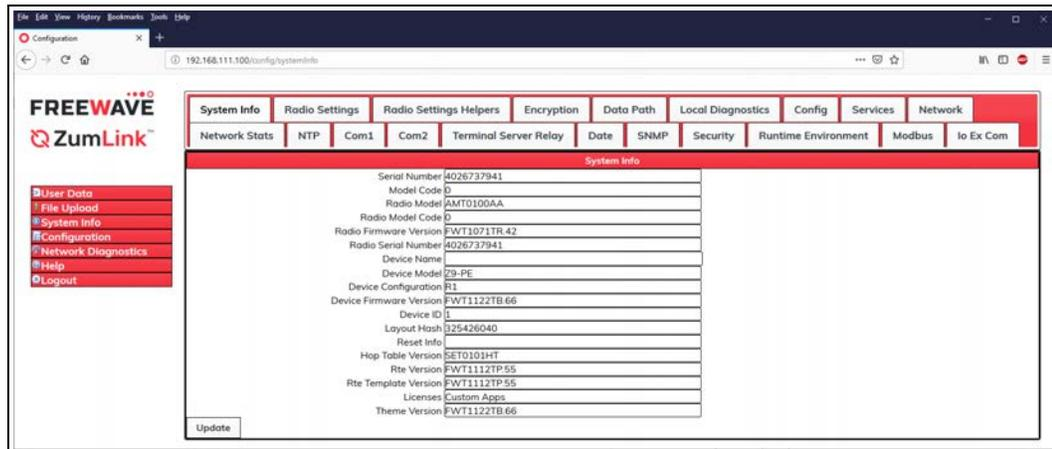

Figure 300: System Info window
6. Click the **System Info** tab to access the **System Info** parameters. Figure 300